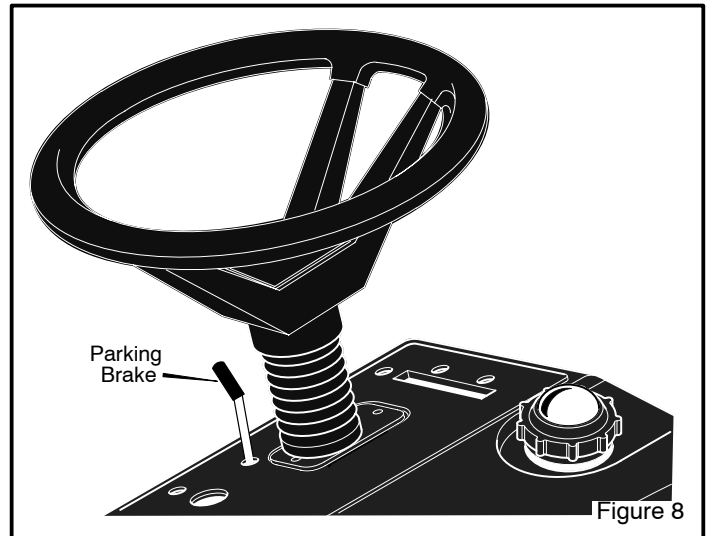

Figure 8
2. Lift the **parking brake lever** (Figure 8).